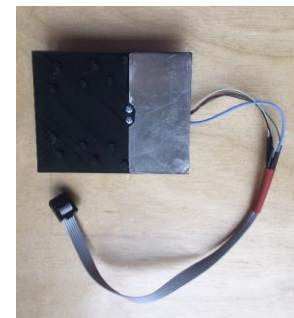

Fig. 4.3
- According to the connector pinout in Table1, solder the four wires from load cell and one wire from the aluminum sheet to the open end of the ribbon cable (Fig. 4.3).